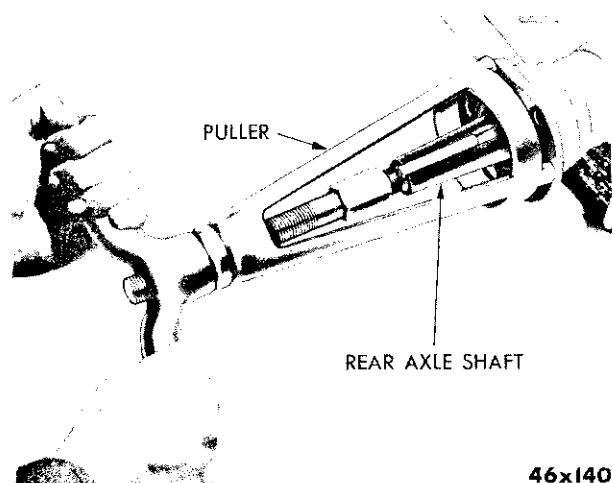

Fig. 3—Removing Axle Drive Shaft and Bearing
- (5) Remove the axle shafts and bearing assembly using Tool C-499 (Fig. 3). If necessary, the bearings may be removed from the axle shafts using bearing puller, Tool C-293-13 (Fig. 4).